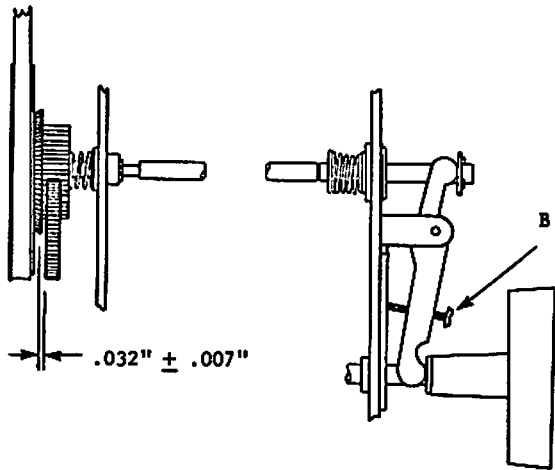

FIGURE 5-19 SPROCKET ADJUSTMENT
- 1) With each of the sprocket wheel covers closed, (Figure 5-19), there should be a gap between cover and paper feed sprocket of .025" to .030" (.64 mm to .76 mm).
- 1) Remove horizontal vernier knob by removing Allen screw from center of knob (Figure 5-19).
- 2) With clutch disengaged (manual advance), adjust screw (B) for a $.032'' \pm .007''$ ($.081 \text{ cm} \pm .018 \text{ cm}$) gap between the cone gear and idler gear (Figure 5-19). (The screw can be adjusted through hole in horizontal vernier knob.)